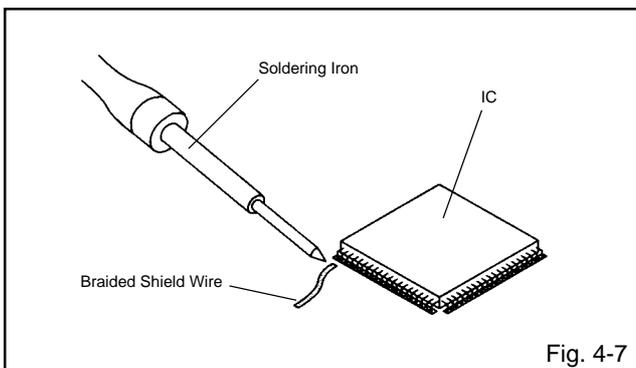

Fig. 4-7
3. Absorb the solder left on the lead using the Braided Shield Wire. **(Refer to Fig. 4-7.)**